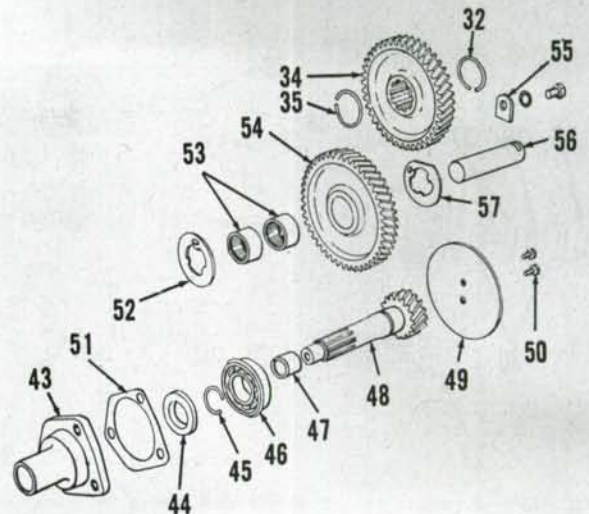

Fig. AC98—Model G clutch shaft, and transmission intermediate gears. All of these parts are contained in the clutch housing.
215. CLUTCH SHAFT. Removal of shaft necessitates removal of the engine as outlined under R & R ENGINE. After the engine is removed disconnect fuel line from tank and remove the radiator. Remove belt pulley from clutch housing if tractor is so equipped. Remove clutch actuating rod and clutch housing to transmission case bolts and the clutch housing. Contained in the housing are the clutch shaft (48—Fig. AC98), release fork and belt pulley drive gear (54). Remove oil slinger (49) from gear end of shaft and the bearing retainer (43) from the front end. The clutch shaft can now be bumped out of the housing in the direction towards the flywheel. The lip of the oil seal (44) on clutch shaft should face toward the transmission.